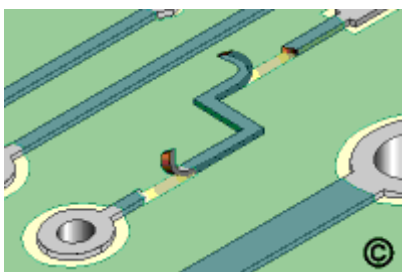

Fig. 3.13
1. Evaluate damage and measure conductor width (**Fig. 3.13**).